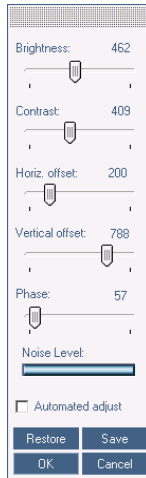

Figure 37 Manual Video Adjustments controls
1. Click Manual Video Adjust. A slider bar appears. See Figure 37. Also a red frame appears around the screen. This represents the screen area according to the Server's screen resolution. Perform the adjustments inside and relative to this frame.